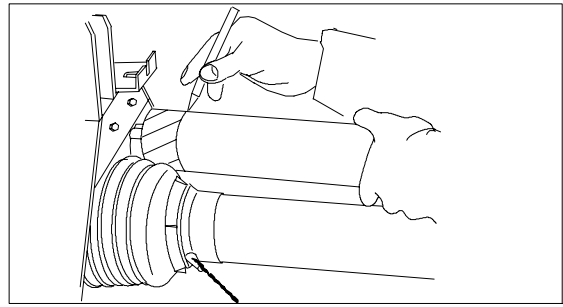

Fig.6.
4. Connect one shaft half to the chipper PTO and the other half to the tractor PTO. Put the PTO halves side by side so that one shaft end is 1" from the PTO–end of the chipper. Mark the length required. The tubes must be so short that they cannot reach the bottom in any chipper position. Cut the plastic tube. Refer to fig. 6.–7.